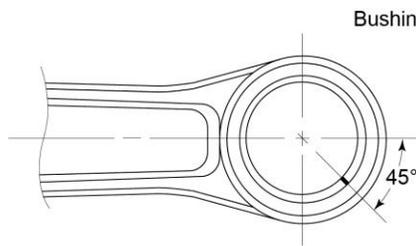

Figure 3
- F. Make sure the split in the bushing is located so that it is toward the piston end of the connecting rod and 45° off the centerline (Figure 3) and press the bushing into the connecting rod until the edge of the bushing is flush with the surface of the connecting rod.